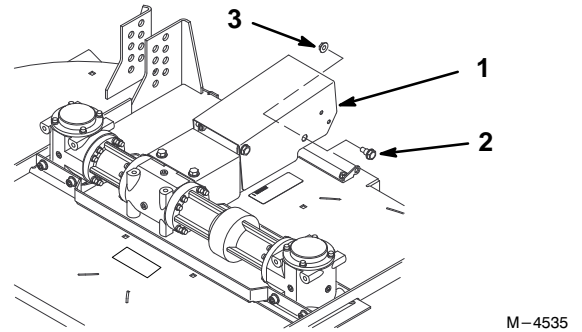

Figure 10
10. Remove 5/16-18 x 7/8" (11 mm) shoulder bolt and 5/16" flange nut holding PTO cover down (Fig. 10).